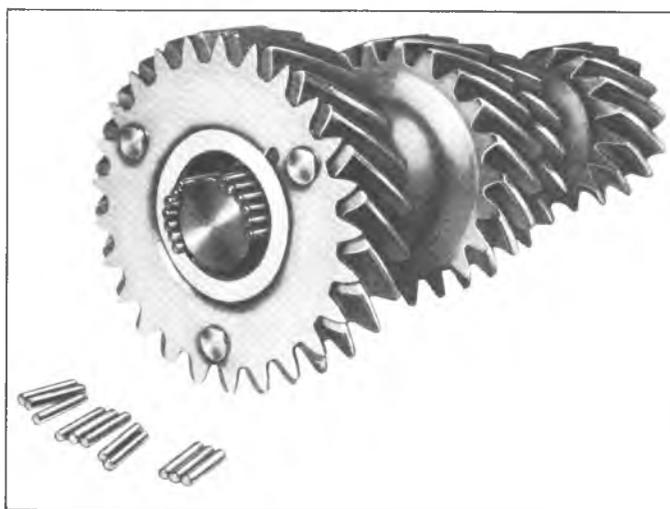

Fig. 15B--Loading Countergear Bearings Using J-22246
2. Using heavy grease to retain the rollers, install a spacer, 28 rollers, a spacer, 28 more rollers, then another spacer. Install in the other end of the counter gear, a spacer, 28 rollers, a spacer, 28 more rollers, and another spacer (fig. 15B).